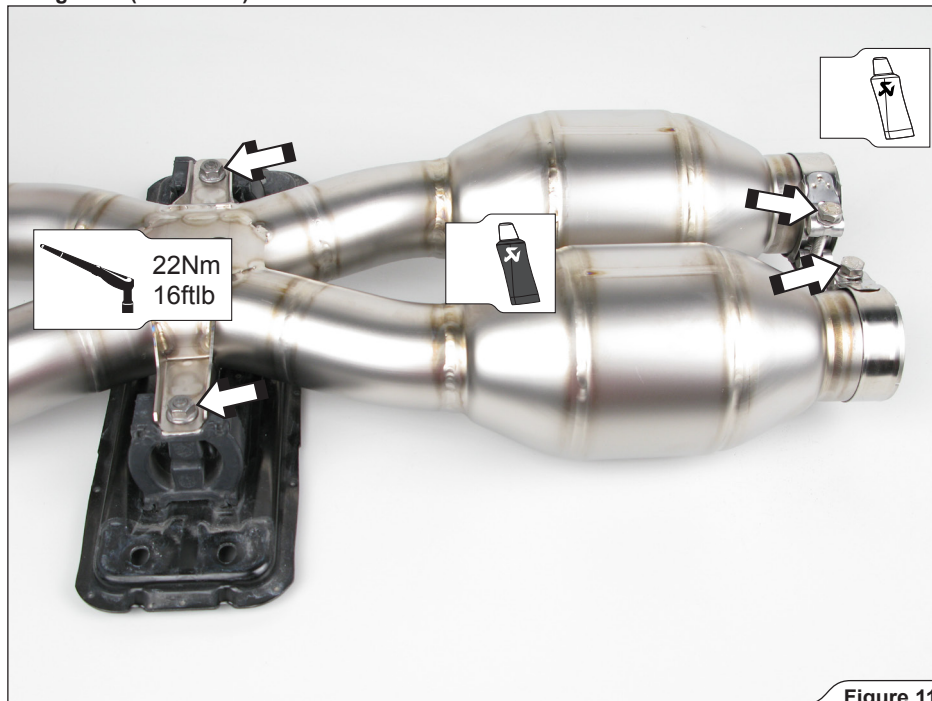

Figure 11
3. **For Evolution:** attach the stock bracket and additional metal clamps to Akrapovič middle pipes (Figure 11).